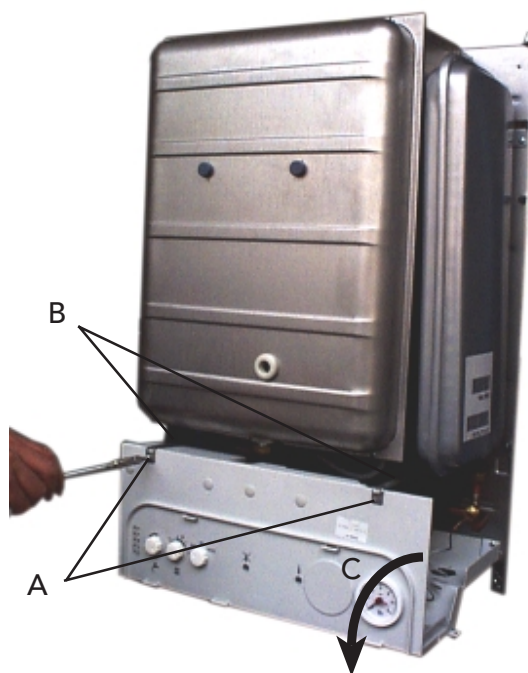

Fig. 35
### 7.03 To lower the control panel (fig. 35)
- Remove the two fixing screw (fig. 35) "A"